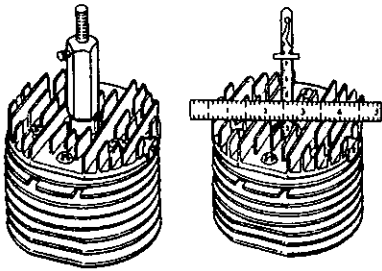

Figure 21
- E. Install the timing gauge number 670124; or use a straight edge and narrow machinist's rule; or use a dial indicator through the spark plug hole. (See Figure 21.)